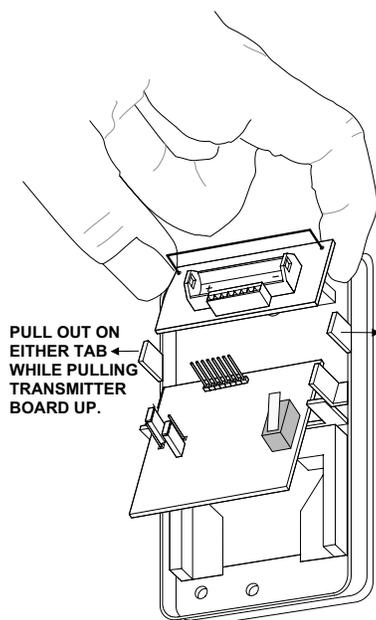

Figure 11. Removing the Transmitter Circuit Board
- Remove the transmitter circuit board and place it inside the cover (see Figure 11).